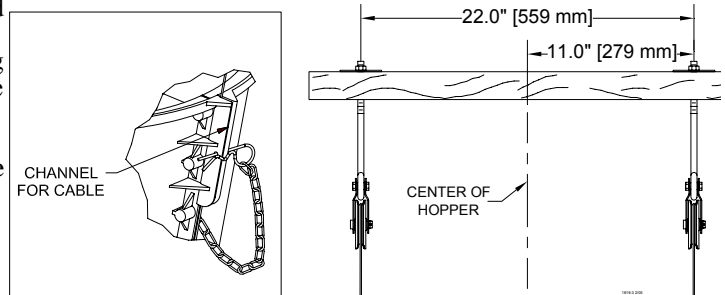

Figure 3.
9. Install two pulleys to either a 2" x 8" [50 x 200 mm] board with will span at least 3 rafters or a 3/8" [9.5 mm] thick steel plate welded to two pieces of angle iron that are long enough to span 2 rafters. Install the pulleys directly above the feeder line where the hopper is to be located. The pulleys should be spaced 22" [559 mm] apart (11" [279 mm] from the center of the hopper in both directions). See **Figure 3**.